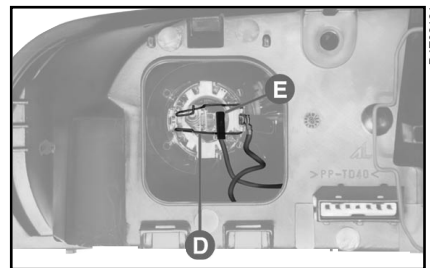

fig. 15
2) Remove the electrical connector **E**-fig. 15.
3) Pull side tabs **D**-fig. 15 of the fixing clip; remove the bulb holder and replace the bulb.